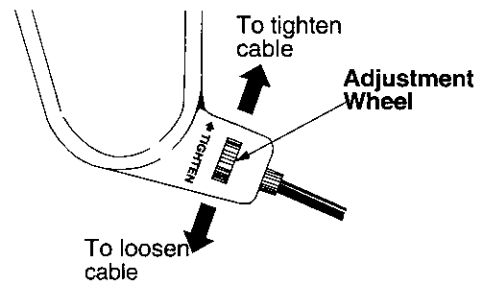

Figure 19
- To resolve the above problems, rotate the adjustment wheel with your fingers: clockwise to tighten the cable, and counter-clockwise to loosen the cable. See Figure 19.